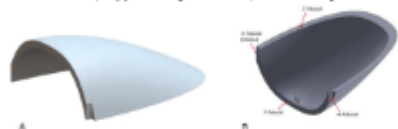

Figure 1
Optimax has significantly advanced its ability to manufacture and measure extreme freeform geometries, most currently with a large freeform window. The outer dimensions of the finished part will be 585 x 430 x 155 mm, with 170 mm of concave (CC) sag, and deviation from a best fit sphere of over 400 nm, placing this part firmly in the category of extreme freeform shapes. Reference features called fiducials or datums have been incorporated into the design of the part to provide information about the location and orientation of the optical surfaces, helping to characterize surface figure error and aid in the manufacture and measurement of the part [1]. A rendering of the finished part is shown in Figure 1.